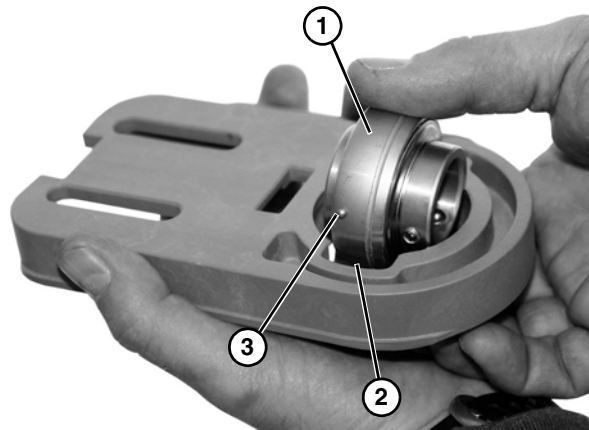

Figure 51
2. Turn bearing (Figure 51, item 1) to align with slots (Figure 51, item 2) in bearing housing. Then remove bearing.
4. Insert bearing (Figure 51, item 1) into housing slot: Locate anti-rotation nub (Figure 51, item 3) to align with slot (Figure 51, item 2), and twist bearing into housing.